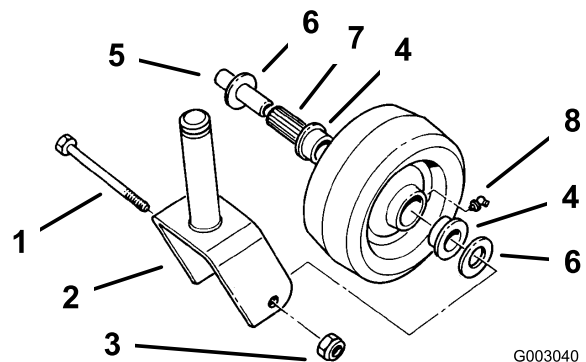

Figure 37
1. Remove the locknut and wheel bolt holding the caster wheel to the caster fork (Figure 37).
2. Remove one bushing, then pull the spanner bushing and roller bearing out of the wheel hub (Figure 37).
3. Remove the other bushing from the wheel hub and clean any grease and dirt from the wheel hub (Figure 37).
4. Inspect the roller bearing, bushings, spanner bushing and inside of the wheel hub for wear. Replace any defective or worn parts (Figure 37).
5. To assemble, place one bushing into the wheel hub. Grease the roller bearing and spanner bushing and slide them into the wheel hub. Place the second bushing into the wheel hub (Figure 37).
6. Install the caster wheel into the caster fork and secure with the wheel bolt and locknut. Tighten the locknut until the spanner bushing bottoms against the inside of the caster forks (Figure 37).